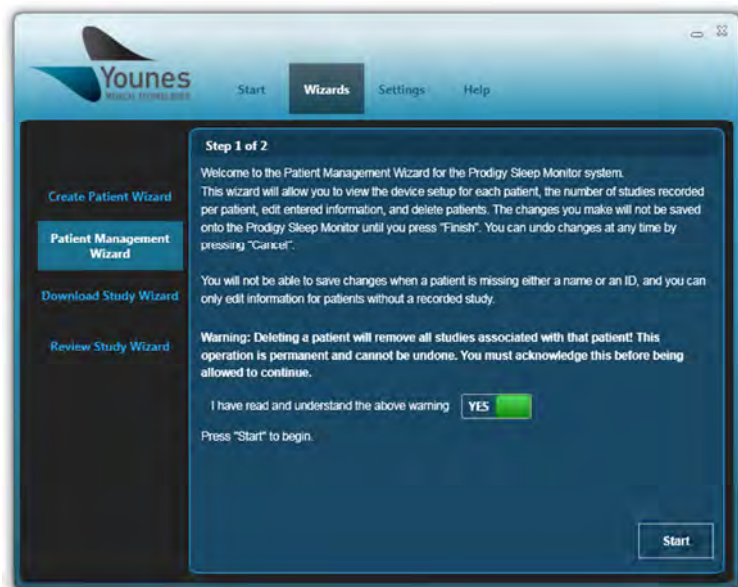

Figure 105 – Windows PC Prodigy Application “Yes” Introduction Screen (Patient Management Wizard)
3. Click the “No” button once you have read and understood the warning presented in Figure 104. Upon clicking “No,” the button will change to “Yes,” as shown in Figure 105. Click “Start” to begin.